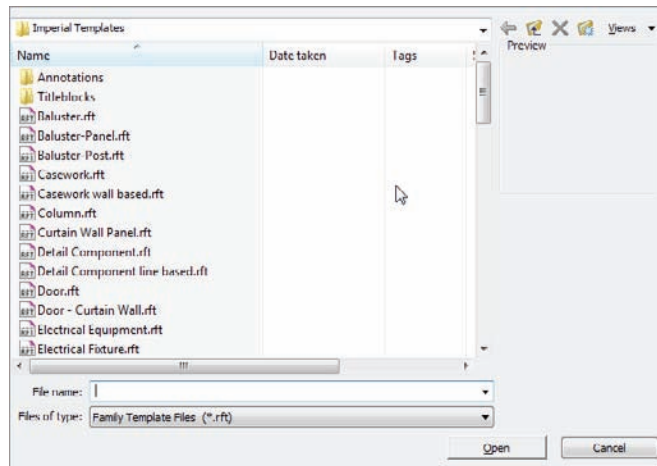

FIGURE 1.58 The creation of a family starts with templates.
1. Click the Application menu button, and select New > Family to open the browse dialog shown in Figure 1.58.